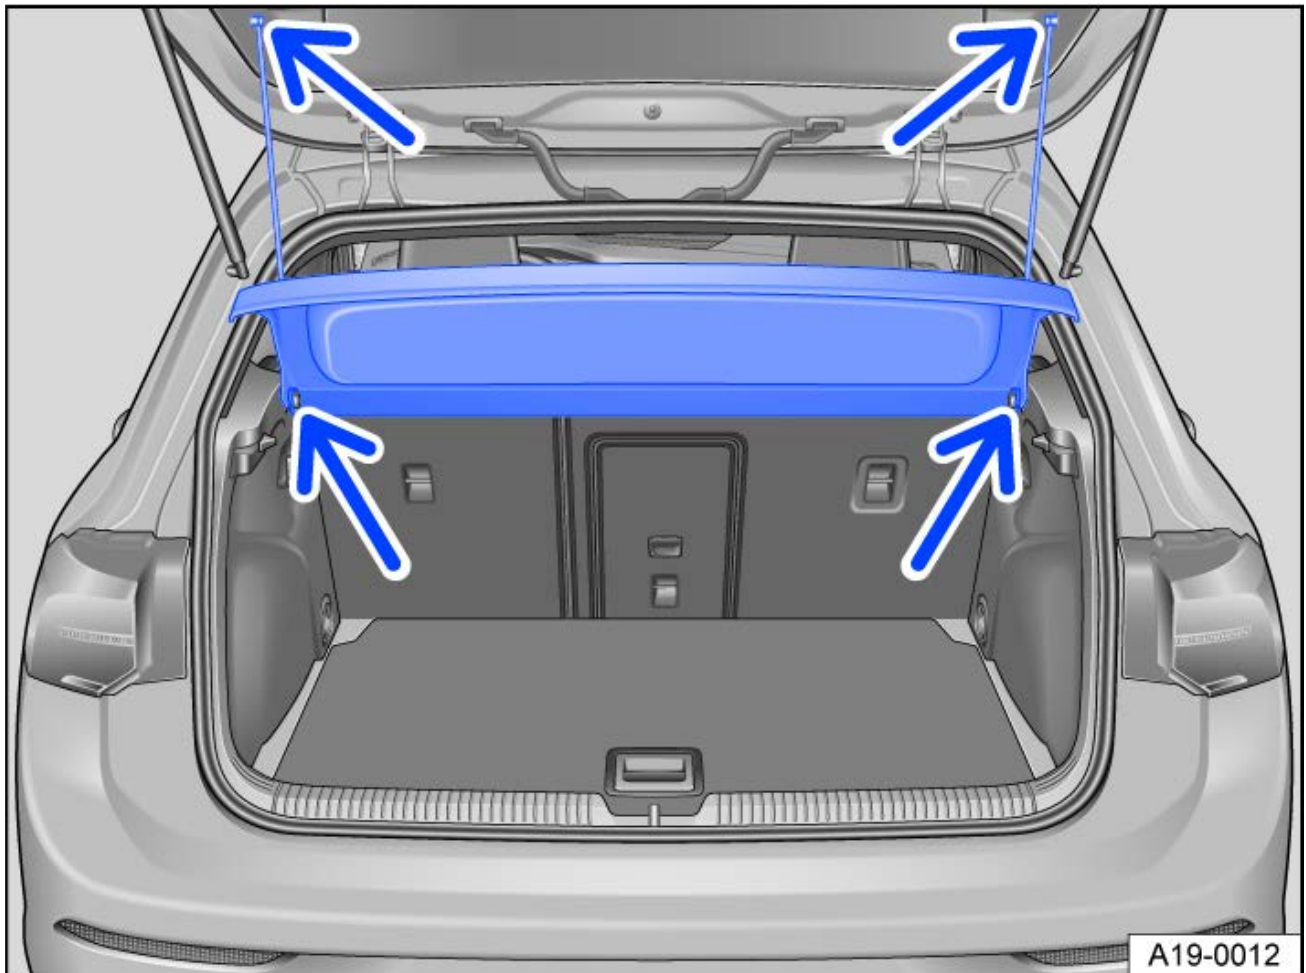

Fig. 1 In the luggage compartment: Installing and removing the luggage compartment cover.
- Unhook the retaining straps from the trunk lid → *fig. 1* (upper arrows).